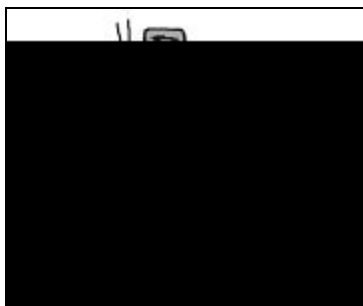

Figure 6.
Step 5.) Insert the bottom of the toggle into the loop and pull the toggle through the loop until the knot passes through the grommet in the toggle. (See Figure 6)